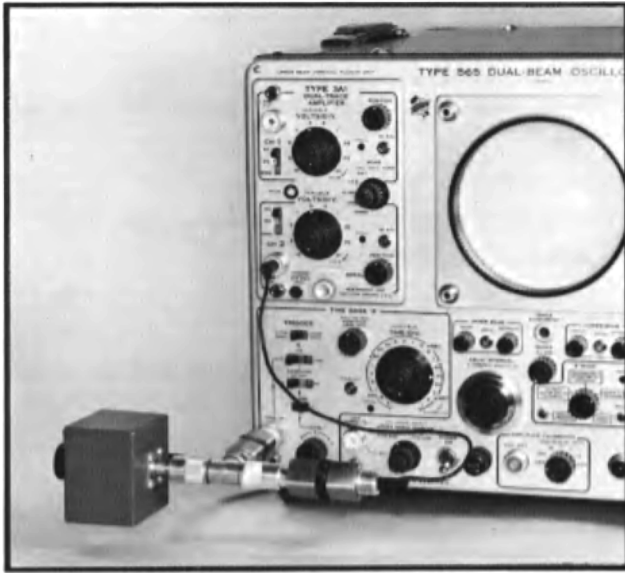

Fig. 5-8. Triggering test with vertical signal picked-off.
4. Move signal input to 'A' TRIG. IN as shown in Fig. 5-8.
5. Connect a patch cord between the 10X attenuator and the upper beam vertical INPUT as shown in Fig. 5-8.
12. Move signal connection to 'A' TRIG. IN with a patch cord to upper beam vertical INPUT as shown in Fig. 5-8.